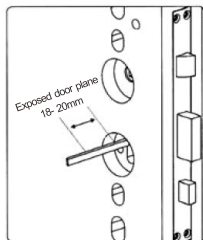

Fig.2
2. Install the lock cylinder, fix the lock cylinder with the lock cylinder fixing screw, ensure that the copper bar of the lock cylinder rotating shaft faces the room, and the length is 18- 20mm of the exposed door surface (as shown in Fig.2, the lock cylinder must be installed and then the copper bar should be cut)